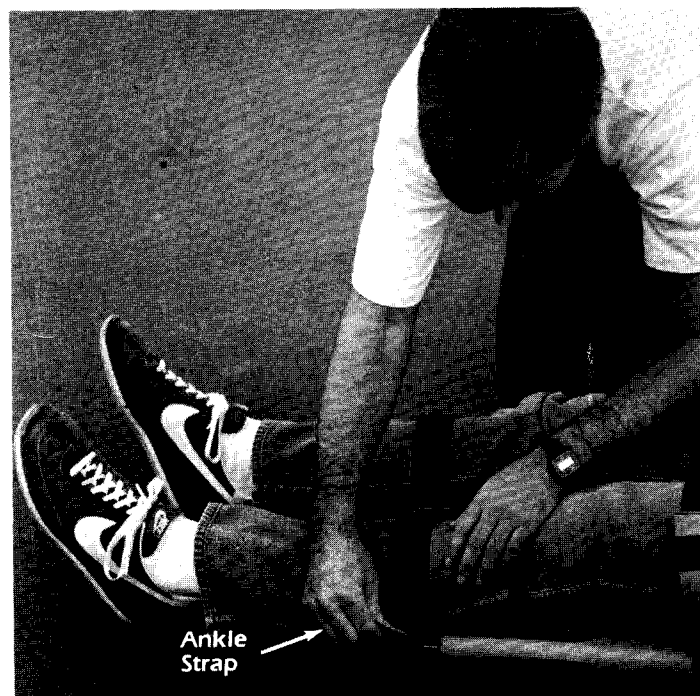

Figure 6.2
6.2 Adjust the ankle straps. (Figure 6.2)